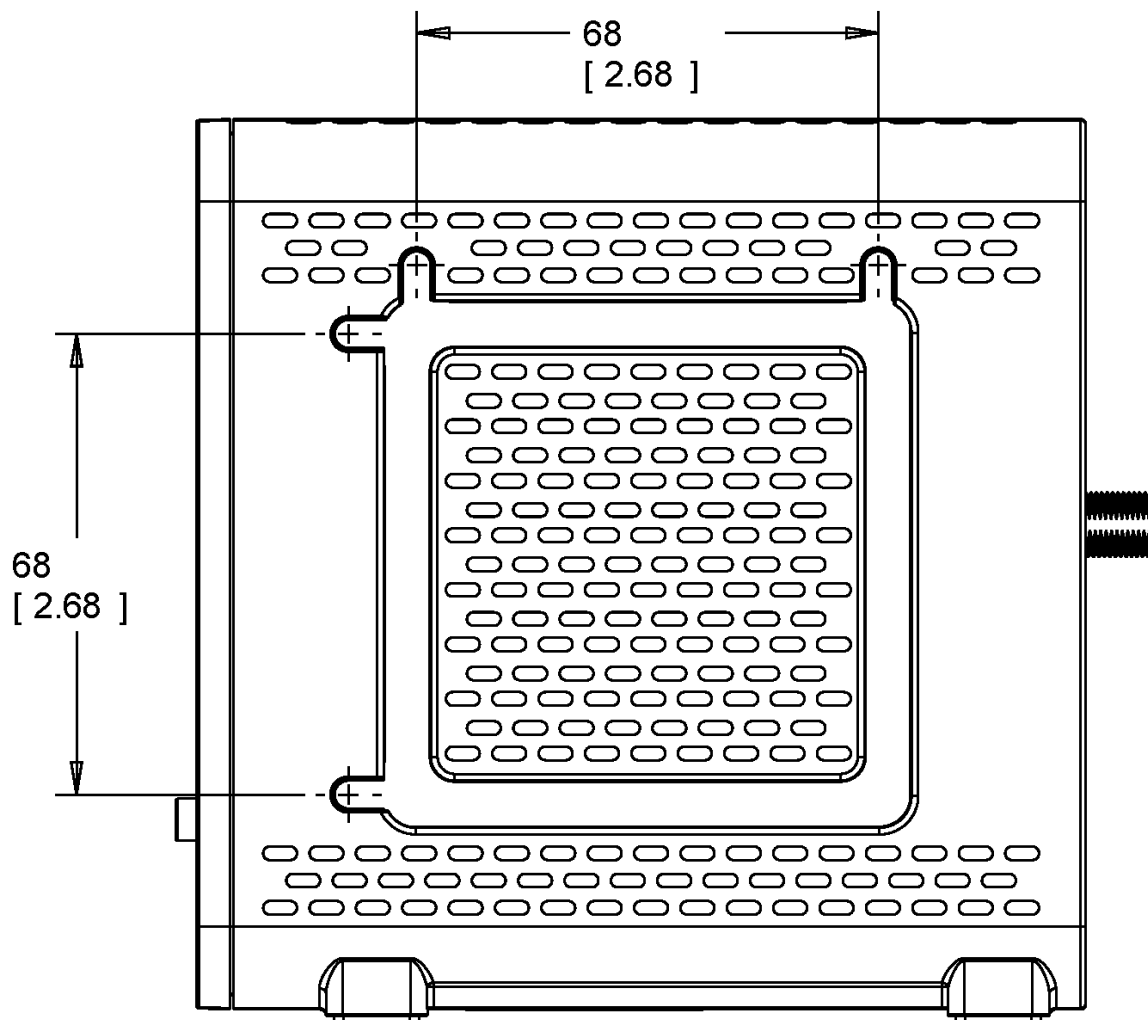

Figure 5: Sample SB6141 Wall Mounting Template
1. Use the wall mounting template as a guide for drilling holes in the wall (see Figure 5).